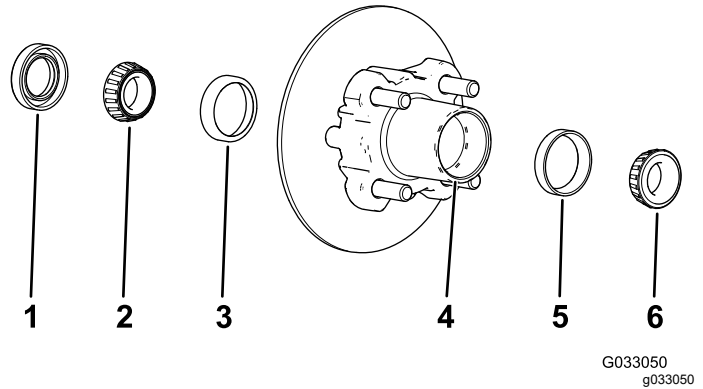

Figure 28
1. Remove the outboard bearing and bearing race from the hub (Figure 28).
2. Remove the seal, inboard bearing from the hub (Figure 28).
5. Clean the cavity of the hub of all grease, dirt, and debris (Figure 28).
7. Fill the cavity of hub 50 to 80% full of the specified grease (Figure 28).
8. Assemble the inboard bearing onto the race at the inboard side of the hub and install the seal (Figure 28).